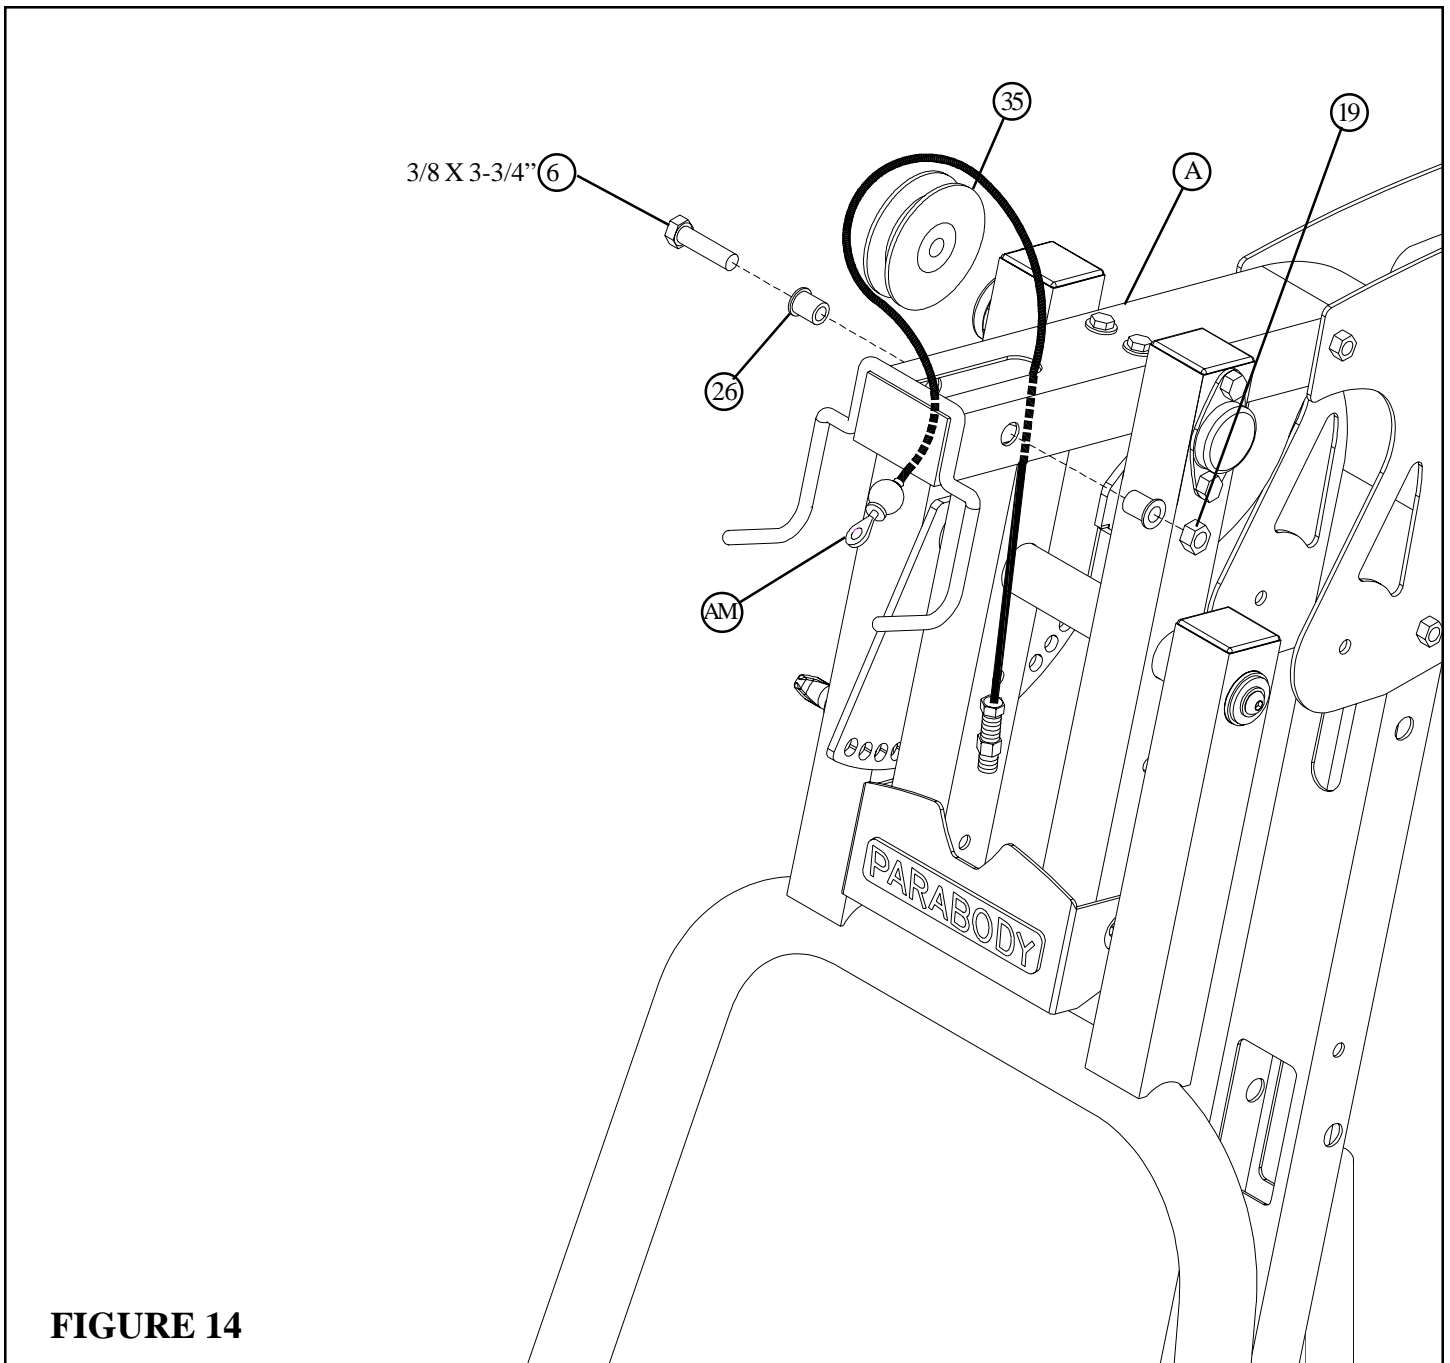

**FIGURE 13**
- Disassemble the PRESS ARM PIVOT SHAFT from the PRESS ARM (H) by removing the two 3/8 X 3/4" ALLEN SCREWS and two 3/8" LOCK WASHERS as shown in FIGURE 13.
- Insert the PRESS ARM PIVOT SHAFT thru the PRESS ARM (H) and the PRESS ARM SUPPORT FRAME (X) and the resassemble the 3/8 X 3/4" ALLEN SCREWS and 3/8" LOCK WASHERS to the PRESS ARM PIVOT SHAFT as shown in FIGURE 13. **(Note: Tighten this connection enough to remove excess play yet allow the PRESS ARM to rotate freely.)**
- Pull back on the SPRING PIN and rotate the PRESS ARM (H) until the SPRING PIN connects with the ROM PLATE (Y)